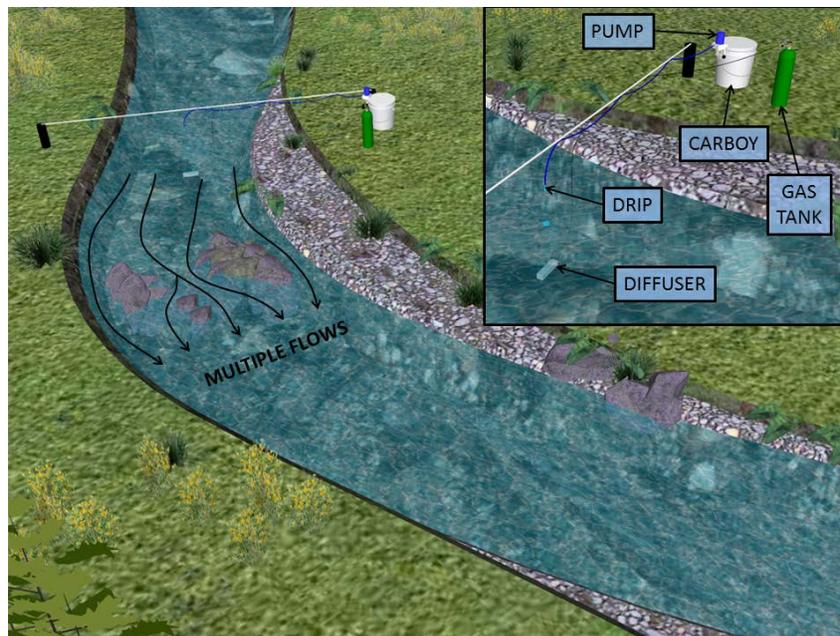

Figure 5. Field setup of the injection site with conservative tracer and inert gas
1. The top of the reach must start with a good mixing zone to completely mix tracer with stream water. Best mixing zones are upstream of shallow pools with converging and diverging flows (Figure 5). This should allow for complete mixing before the first sampling station (Station 1), often occurring over a distance of 25 – 100 m. Wide, slow moving streams may have difficulties mixing. To ensure complete mixing at Station 1, during the continuous NaCl injection measure conductivity across main flowing section of the stream after steady state has been reached (i.e., the conductivity is no longer increasing). Depending on flows this could take 20 minutes to several hours to attain. If the site is well mixed, conductivity should be similar across this main flow.
2. Set up the bucket/carboy, tubing, battery, and pump on a level surface at the injection site (Figure 5). If a level surface on the bank is not adequate, place pump set-up on a bridge or plank laid across the stream.
5. Pump Set-up: The end of the tubing should be placed a few inches above the water surface. **DO NOT** put the tubing in the stream because it will change the pump rate. Attach the tubing to something stable, such as a piece of rebar pounded into the streambed or a tree above the stream. Make sure to INJECT (i.e., Drip) INTO THE THALWEG so the solution will mix as quickly as possible with the stream water (Figure 5).
- 4) Make sure diffuser remains underwater and is at the same location in the stream as the conservative tracer injection (Figure 5).